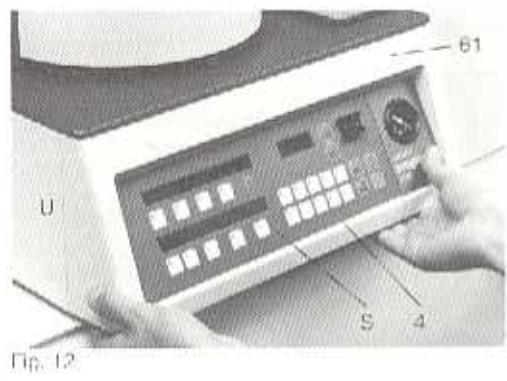

Fig. 12
5. Hold the furnace as shown in Fig. 12. Using the index fingers, release the locking bolts (61c) and simultaneously insert middle or ring fingers under the front panel (4) of the control unit, drawing it away from the main unit. (Release control unit).